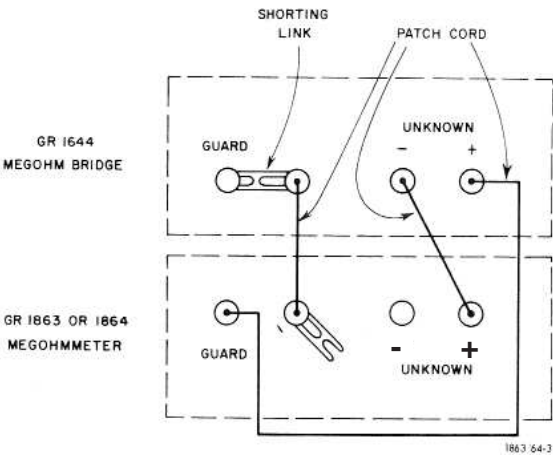

Figure 6-1. Connections for measuring standard resistors with a digital multimeter
18. Connect the two ground terminals together with a third patch cord (Figure 6.1).